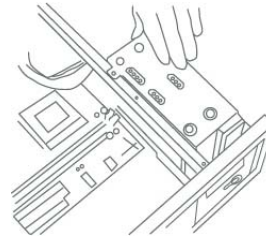

Figure 7
3.2) Slide in the 3.5" bracket from inside into case. (See Figure 7)